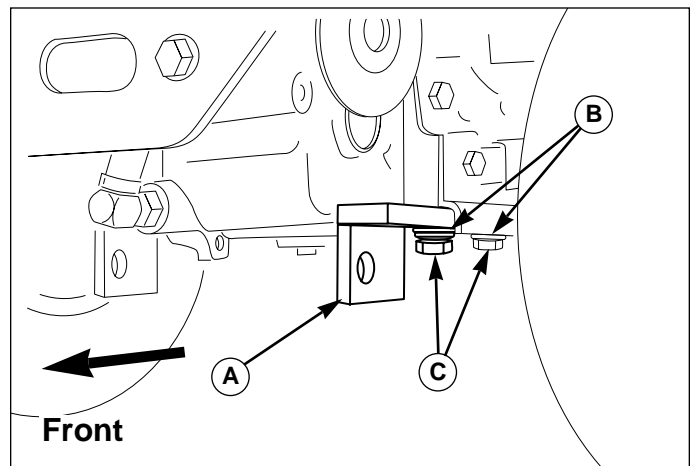

Figure 10. Rear Hitch Brackets
2. Attach the rear hitch brackets (A, Figure 10) to the drawbar and transmission with the 5/8-11 x 2" capscrews (C) and washers (B) provided.
NOTE: During initial installation do not tighten the capscrews (C, Figure 10) securing the rear hitch mounting brackets until the attachment is completely installed.
NOTE: At this point during initial installation tighten the capscrews (C, Figure 10) securing the rear hitch mounting brackets. This is only necessary when installing the attachment for the first time.